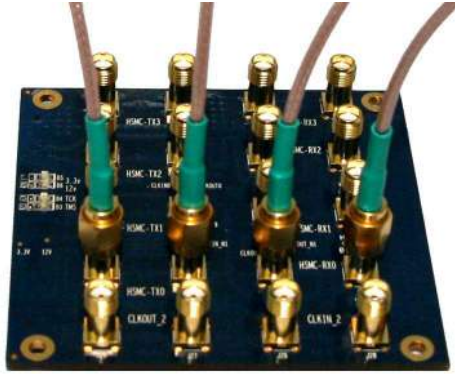

Figure 4.3 Short J23 and J24 via SMA Cable
- Connect SMA Cable to J22 and J24 as shown in Figure 4.3 to short the negative signal of the transceiver channel 0 (HSMC-TX0n).